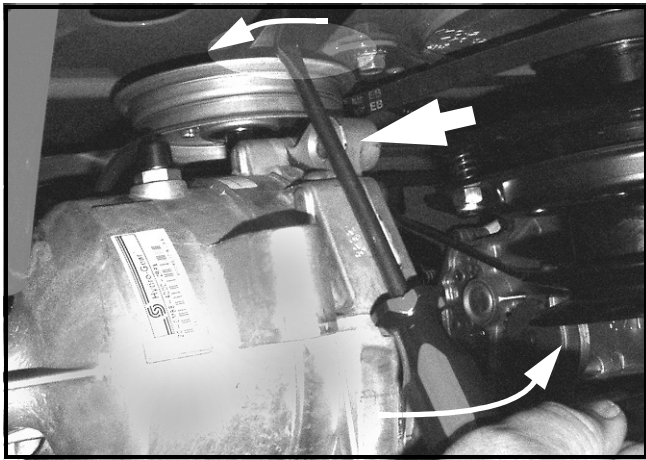

FIGURE 2
10. From beneath the rear of the tractor, insert a large flat blade screw driver into the square hole of the drive idler bracket. See Figure 2.
11. Using the screw drive for leverage against the transmission lug, pivot the idler bracket and idler pulley away from the backside of the "V" belt; then slip the belt off the idler pulley. See Figure 2.
22. Install the hydrostatic transmission belt. Refer to Steps 11, 12 and Figure 2.